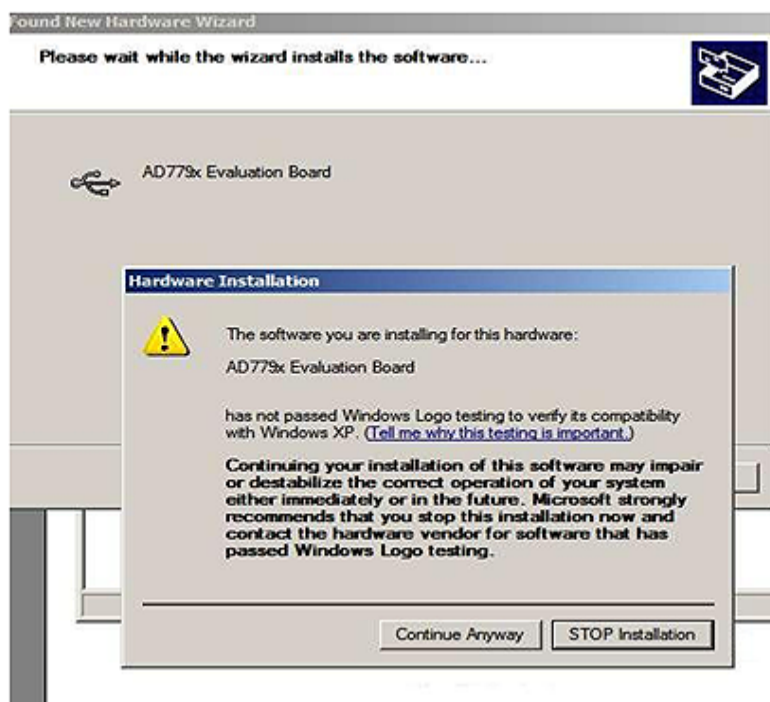

Figure 2. Hardware Installation Window
3. Follow the on-screen instructions that appear. During the installation process if the **Hardware Installation Wizard** appears as shown in Figure 2, click **Continue Anyway** to successfully complete the installation of the AD7785 evaluation board.